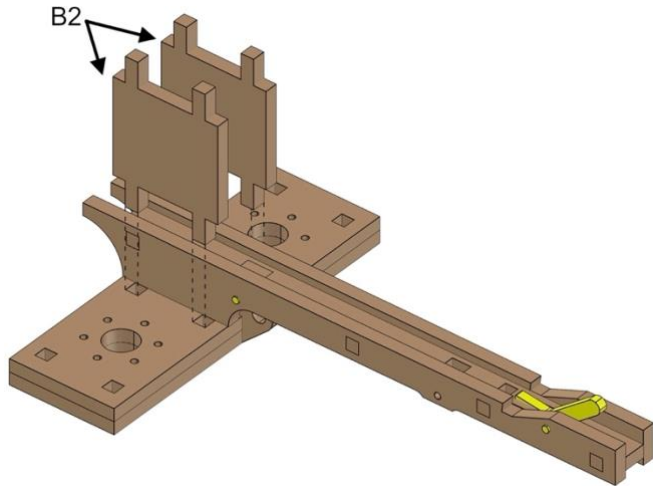

Fig. 17
- Align parts exactly as shown in *Fig. 17*.